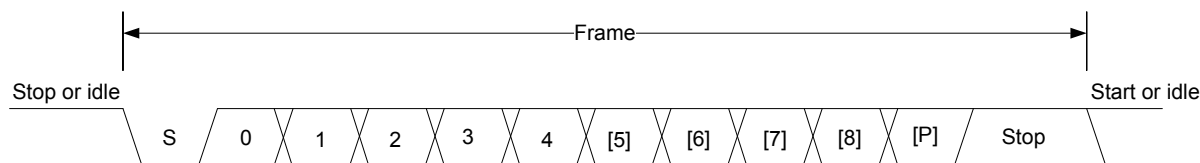

Figure 21.2. Frame Format
The frame format used in asynchronous mode consists of a set of data bits in addition to bits for synchronization and optionally a parity bit for error checking. A frame starts with one start-bit (S), where the line is driven low for one bit-period. This signals the start of a frame, and is used for synchronization. Following the start bit are 7 to 9 data bits and an optional parity bit. Finally, a number of stop-bits, where the line is driven high that indicates the end of the frame. An example frame is shown in Figure 21.2 Frame Format on page 637.